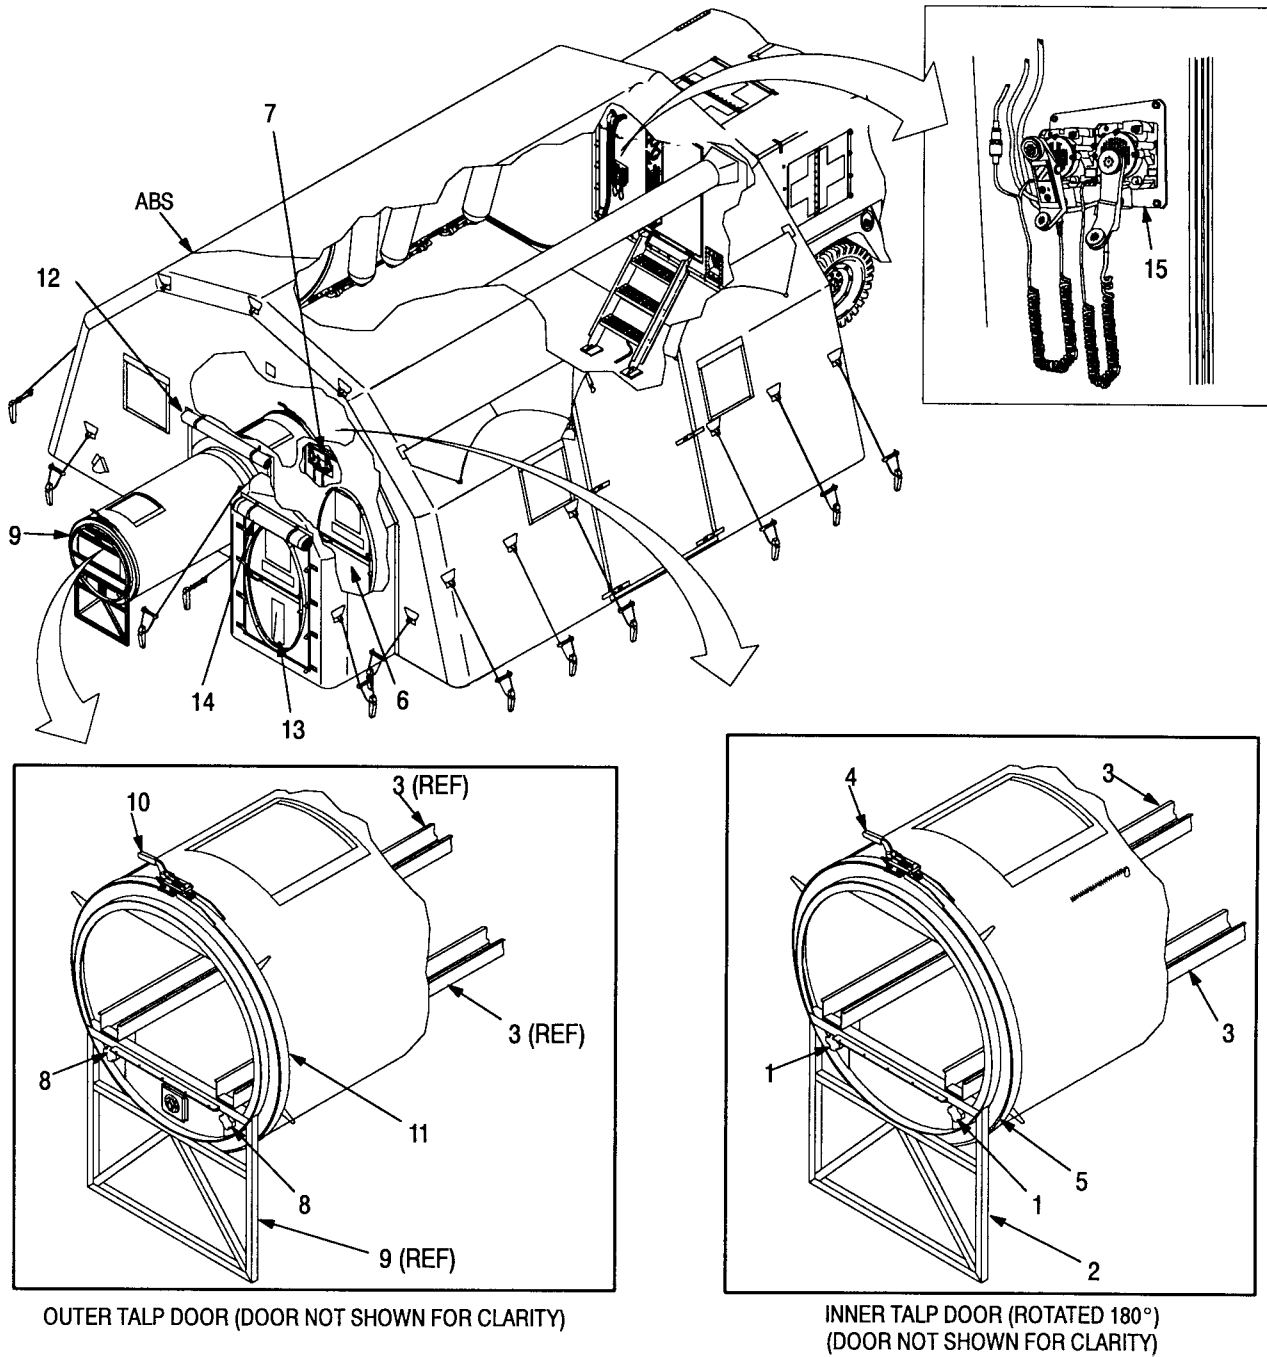
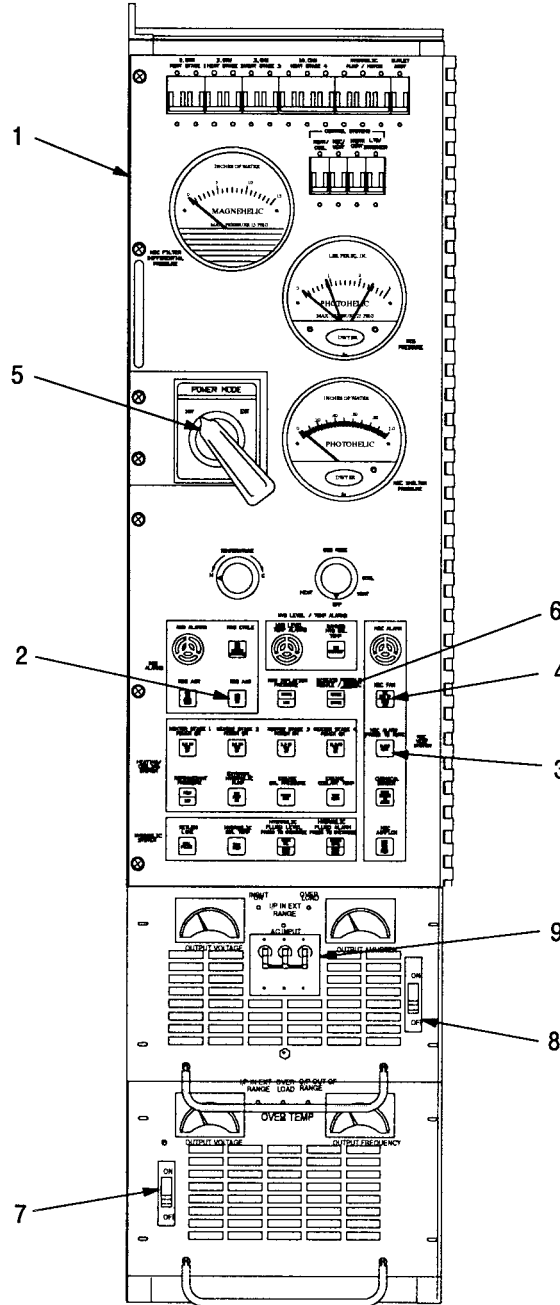

Figure 2-27. Ambulatory Airlock Door and TALP Airlock Door Removal
Figure 2-28. Rear Control Panel Settings Using Internal Power During Striking
- (1) Disconnect lights and recirculation fans.
- (2) Remove lights from hangers.
- (3) Remove sound blanket from TALP rail straps.
- (4) Pass light set, medical chests, litter stands and other items through TALP door to cab crew.
- (5) Stow recirculation fans, litter stands and other items in LMS.
- (6) Loosen two rail knobs (1, figure 2-27) on inner TALP airlock door (2). Wait for signal from cab crew to remove and stow rails (3).
- (7) Loosen latch clamp (4).
- (8) Remove retaining clamp (5).
- (9) Remove inner TALP airlock door (2) and stow in LMS.
- (10) Remove inner ambulatory door (6) by loosening spring clips and separating fastener hook and fastener loop, and stow in LMS.
- (11) Remove ambulatory and TALP airlock gage assembly (7) and stow.
- (12) Disconnect cables from speaker assembly (15) and stow.
- (13) Pull cable assemblies through hole and stow.
- (14) On rear control panel (1, figure 2-28) press RIB FAN switch (2) to OFF. Indicator light (green) will turn off. Ensure ALARM MUTE (3) and NBC FAN (4) switches are off (indicator lights ALARM MUTE (blue) and NBC FAN ON (green) will be off).
- (15) Signal to cab crew to proceed with striking ABS.
- (1) Cab crew member no. 1 proceeds as follows:
- (2) Remove lights, medical chests, litter stands and other items from TALP entrance and stow.
- (3) Loosen two outer TALP rail knobs (8, figure 2-27). Signal LMS crew to remove rails (3).
- (4) Remove outer TALP airlock door (9) by disengaging latch clamp (10) and removing retaining clamp (11). Store door (9) on HMT.
- (5) Push TALP fabric into ABS.
- (6) Unroll TALP door flap (12) and secure opening as tightly as possible with fastener hook and fastener loop tape.
- (7) Remove outer ambulatory airlock door (13) by loosening spring clips and separating fastener hooks and fastener loops. Stow door (13) on HMT.
- (8) Unroll ambulatory door flap (14) and secure outer ambulatory airlock door (13) opening as tightly as possible with fastener hook and fastener loop tape.